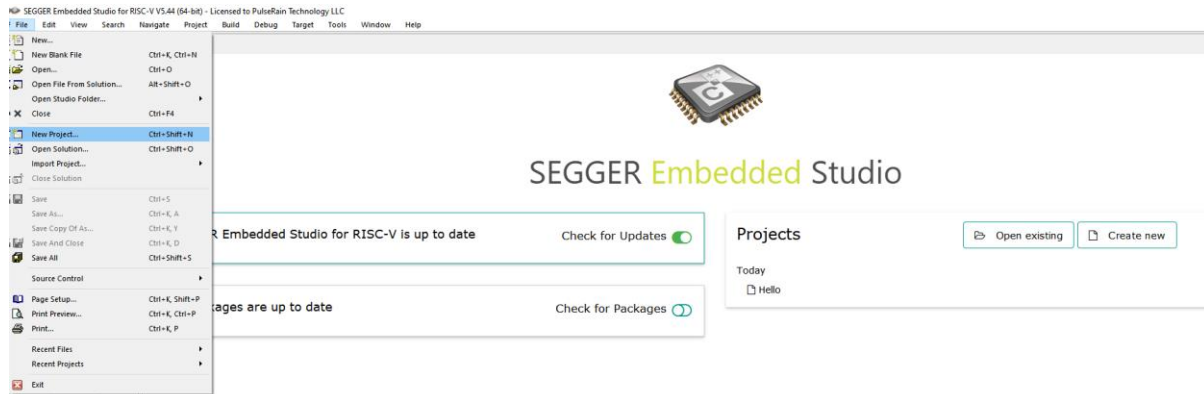

Figure 6-3 Embedded Studio, Start Page
4. Start the Embedded Studio for RISC-V, close the current solution, and Choose Menu File / New Project ... to start a new solution, as illustrated below in Figure 6-3.